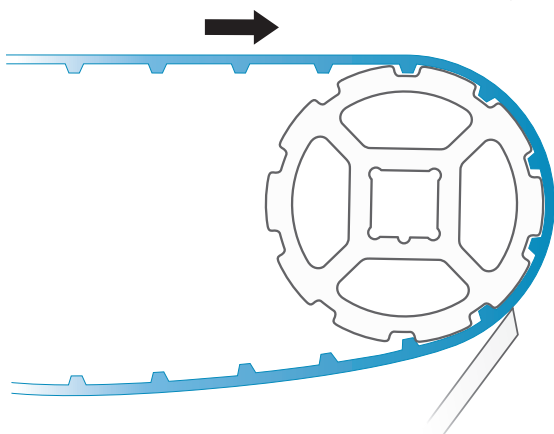

Figure 19
- Design the scraper to be mounted at an angle for maximum cleaning performance (Figure 19). Do not mount the scraper vertically.